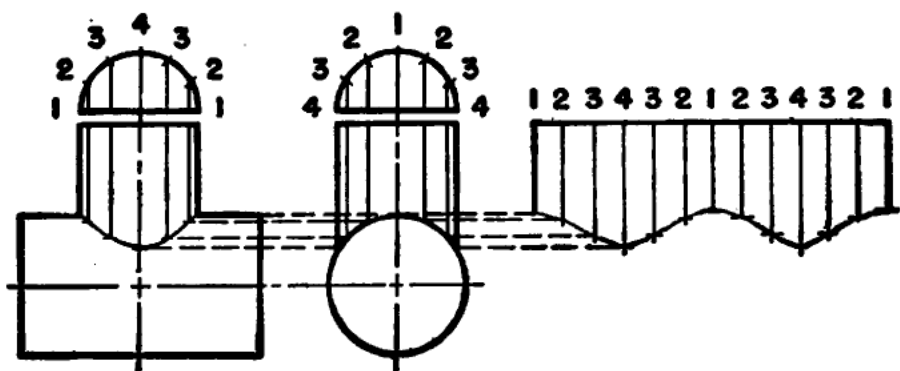

Figure 62.—Stretch-out of the T.
8. To the right of the elevations draw a stretch-out equal in length to the T (see fig. 62) or equal to twice the distance that you stepped off in the half plan. The height of the stretch-out obtained by projection is equal to the height of the T as drawn. The length is equal to the longest element in the side elevation—in this case, element number 4.